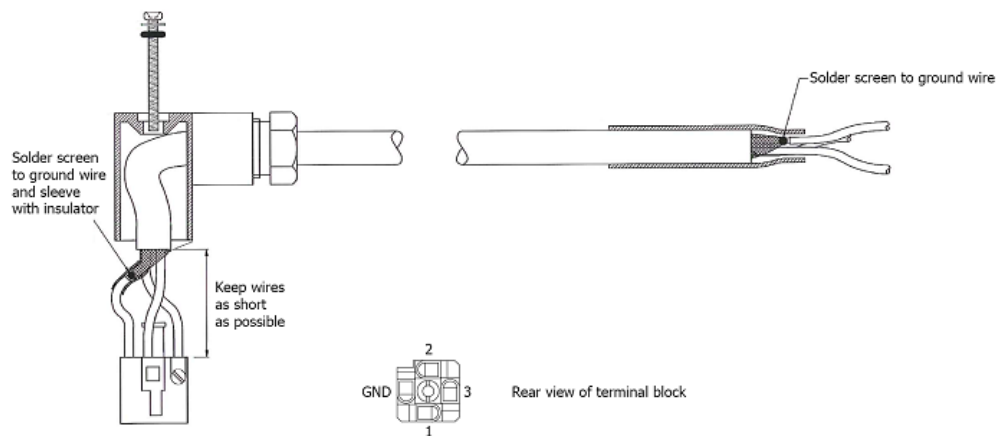

Figure 16 *Easidew Transmitter*
4. Cable should be assembled according to Figure 16.